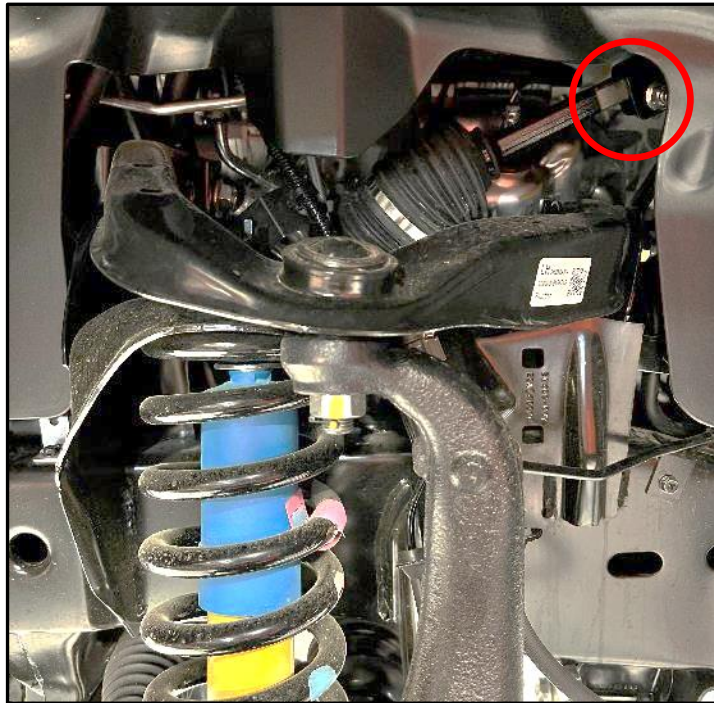

Figure 1
6. **Frontier/Xterra Owners:** On the driver's side of the vehicle, loosen the nut on the Steering Shaft and reposition the shaft out of the way, circled below in *Figure 1*.